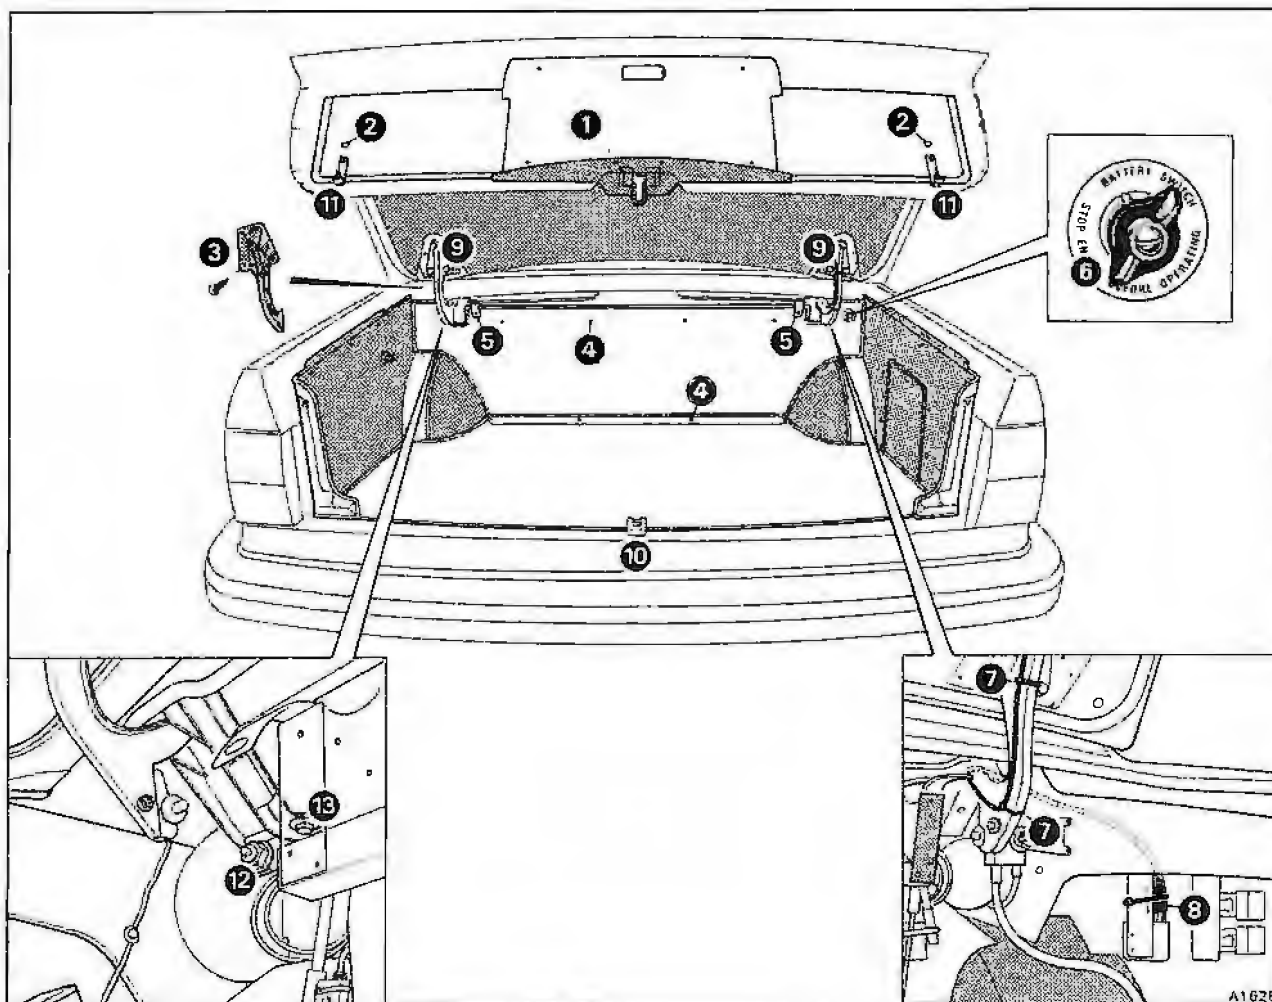

Fig. S7-1 Luggage compartment lid trim and hinge mounting arrangement
Luggage compartment lid carpet – To renew (see fig. S7-1)
Luggage compartment lid – To remove (see fig. S7-1)
Luggage compartment lid – To fit (see fig. S7-1)
Hinges – To remove (see fig. S7-1)
2. Unscrew and lower the centre trim panel (see fig. S7-1, item 1). Disconnect the Lucar connectors from the luggage compartment lamp and remove the panel.
2. Unscrew and lower the centre trim panel (see fig. S7-1). Release the Lucar connectors from the luggage compartment lamp and remove the panel.